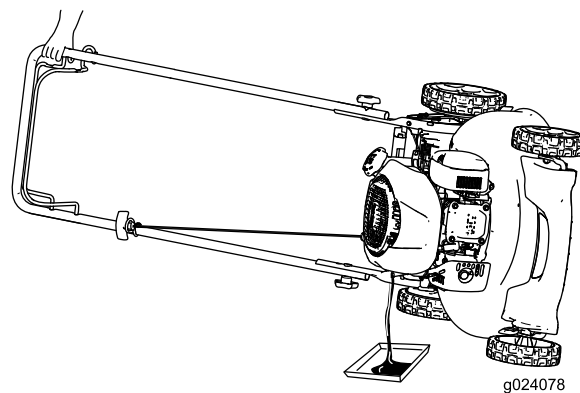

Figure 23
2. Tip the machine onto its side, with the dipstick down, to drain the used oil out through the oil-fill tube (Figure 23).